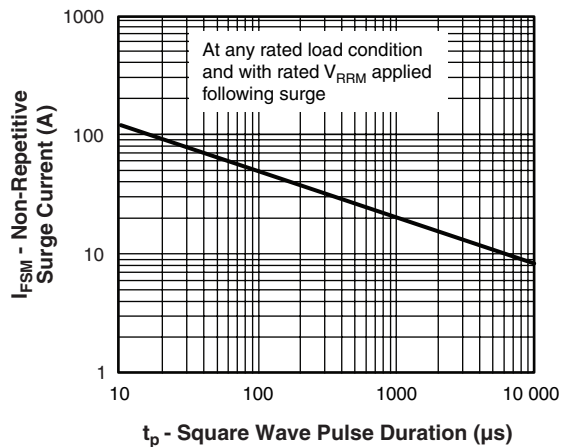

Fig. 6 - Maximum Non-Repetitive Surge Current (Per Leg)
- (1) Formula used: $T_C = T_J - (P_d + P_{d_{REV}}) \times R_{thJC}$; P_d = Forward power loss = $I_{F(AV)} \times V_{FM}$ at $(I_{F(AV)}/D)$ (see fig. 6); $P_{d_{REV}}$ = Inverse power loss = $V_{R1} \times I_R (1 - D)$; I_R at 80 % V_R applied